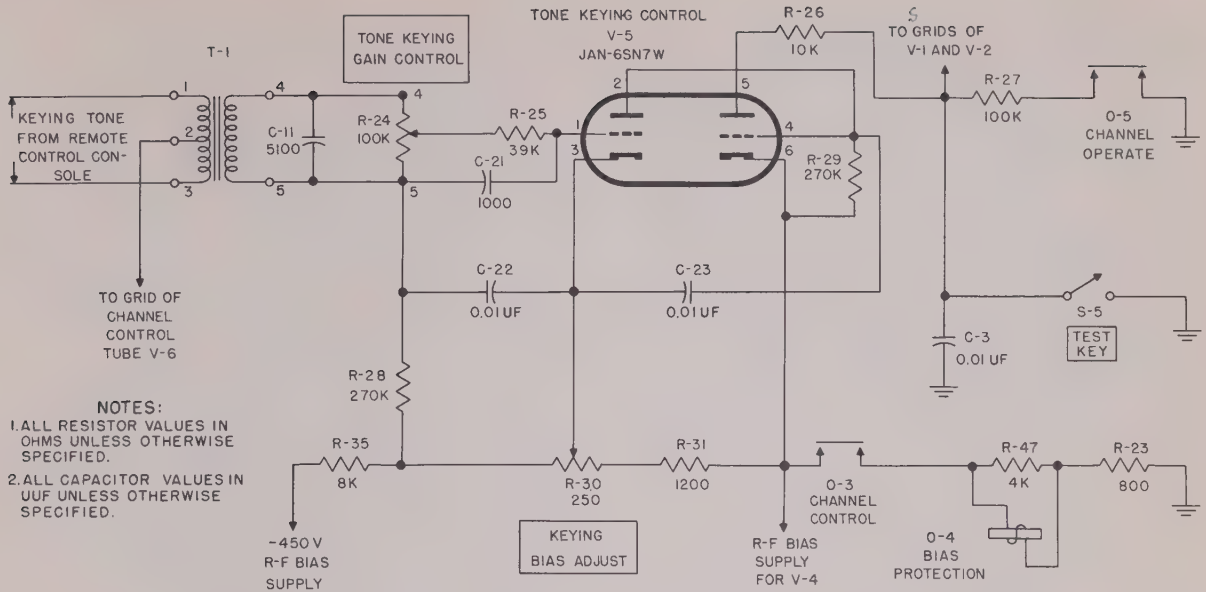

Figure 43. Radio Transmitter Model 96D, simplified schematic diagram of tone keying control circuit
58. Tone Keying Control (fig. 43)